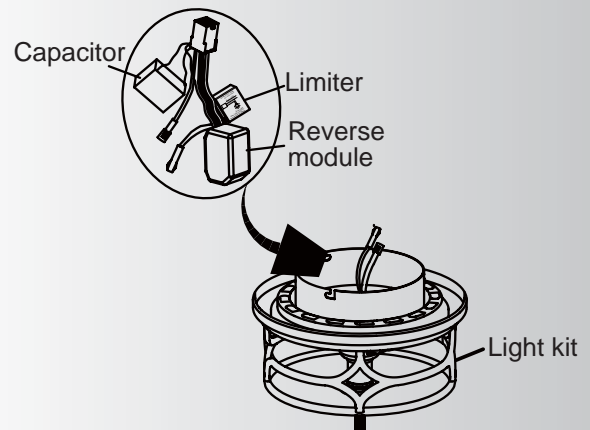

Fig. 21
Step 4. Connect the black wire connectors from the light fixture and switch housing by pushing them together. Follow the same procedure with the white wire connectors. Tear adhesive paper pre-sticking on one side of the reverse module, capacitor and 190w power limiter. Stick them on the inside of switch housing. (Fig. 21)